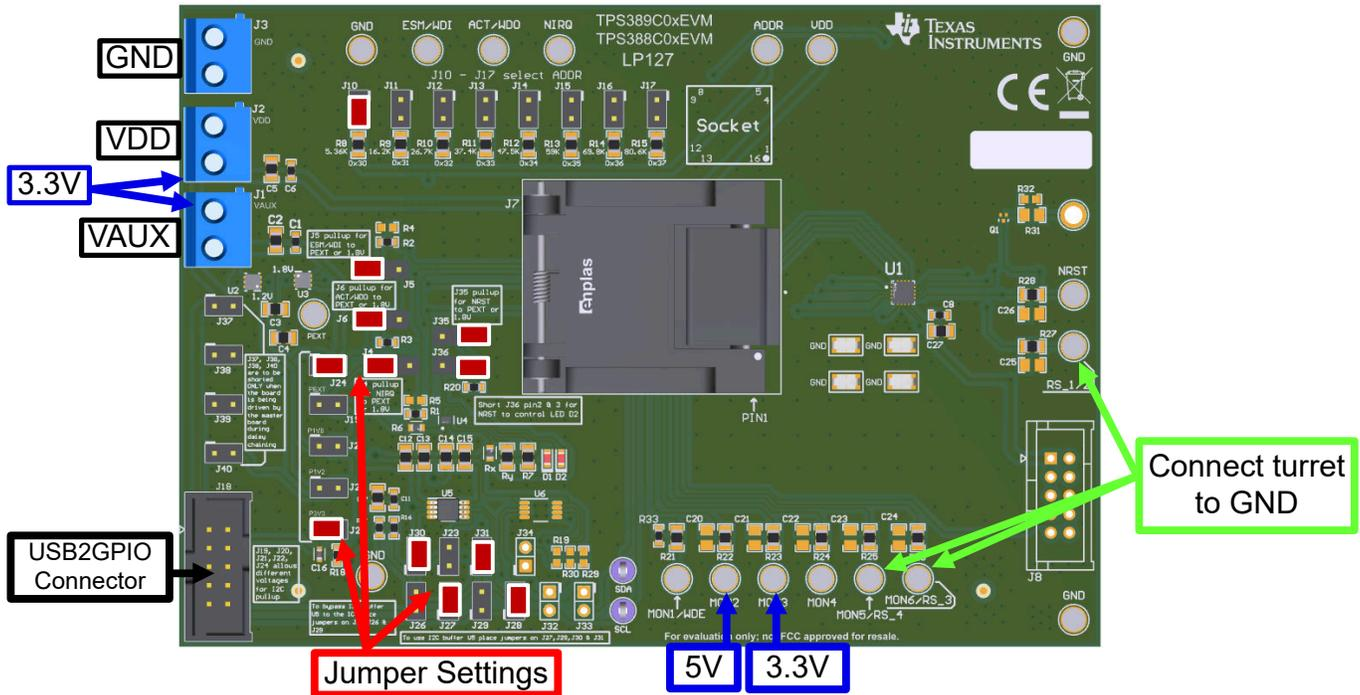

Figure 2-4. TPS389C0XEVM Monitoring Two Voltage Supply Rails
The example below shows a TPS389C03-Q1 monitoring two voltage supply rails on the TPS389C0XEVM. Please follow the steps in Section 2.2 and Section 3.1.1 before evaluating the TPS389C0XEVM. Below, Figure 2-4 shows how the TPS389C0XEVM was setup to monitor two voltage supply rails.
4. Verify that the jumper settings, highlighted in red in Figure 2-4, are set on the TPS389C0XEVM.
6. Final Connections must look similar to Figure 2-4.